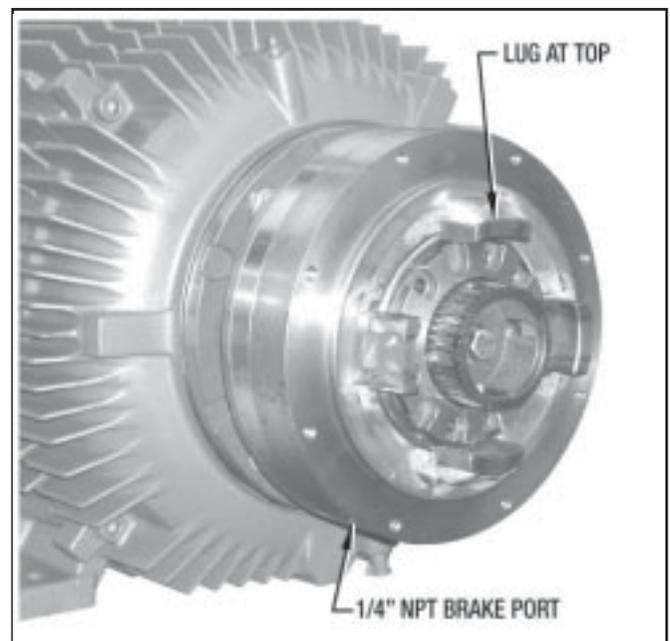

Figure 3.6
2. Carefully guide the Piston Housing Assembly into the mating diameter of the Housing (#8). See *Figure 3.6* for the position of the brake lugs and the 1/4" NPT brake port
3. Using (8) Hex Hd. Cap Screws (#151) and Lockwashers (#129) bolt the Piston Housing Assembly to the Housing (#8).
The Friction Discs will also start onto the Splined Hub more easily if tilted slightly (*See Figure 3.6*).